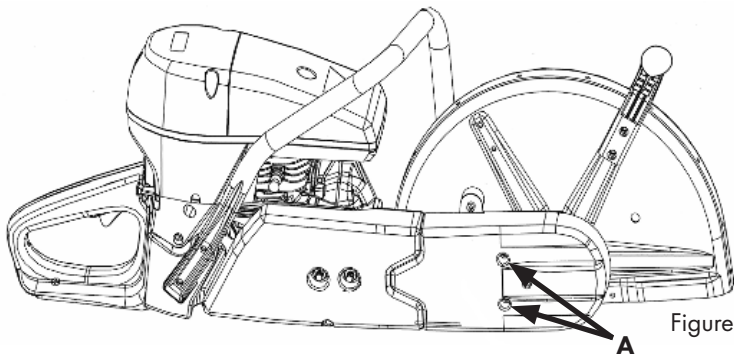

Figure 15
- Loosen the two screws (A), Fig. 15.